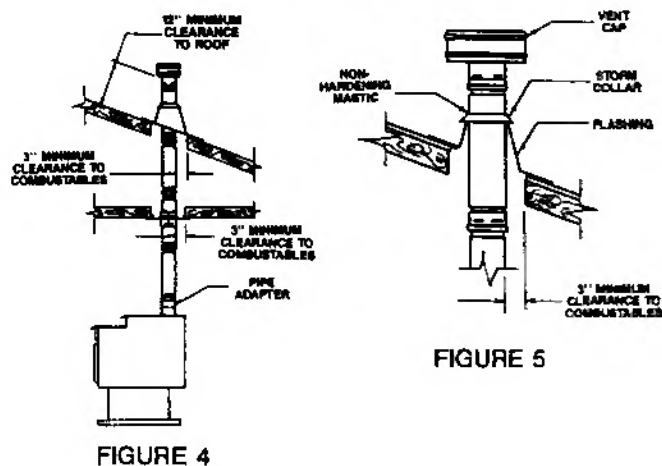

FIGURE 5
2.313 P24FS VERTICAL INSTALLATION Existing Chimney System (figure 5)